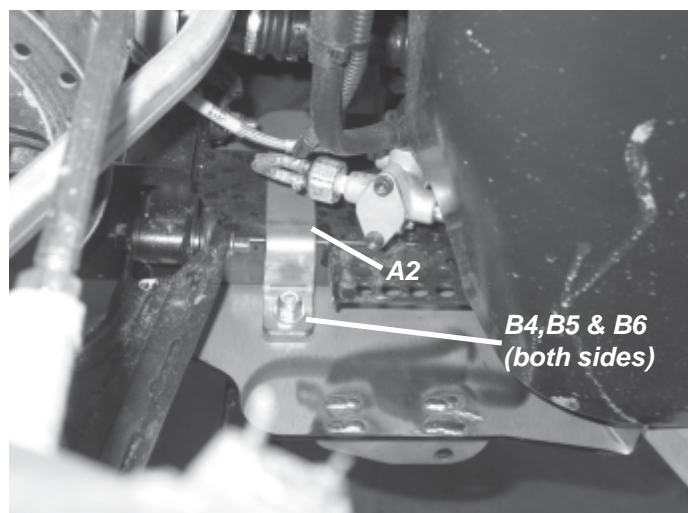

Figure 3 - Plow Mount Strap Location
3. Place the plow mounting strap (A2) into location as shown in figure 3. Secure with two 3/8-16 X 1 hex bolts (B4), 3/8 flat washers (B5) and 3/8-16 lock nuts (B6).